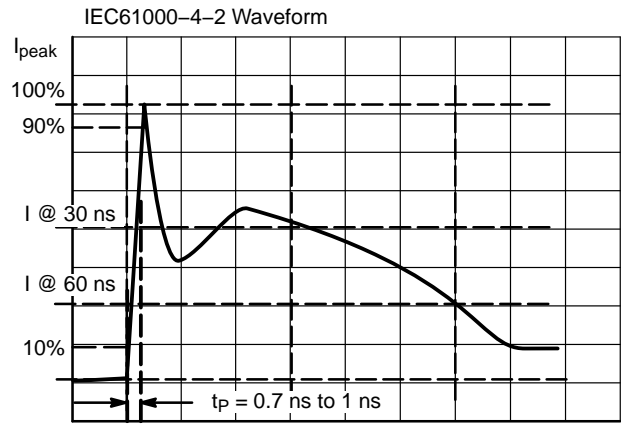

Figure 5. IEC61000-4-2 Spec
- For test procedure see Figure 5 and application note AND8307/D.